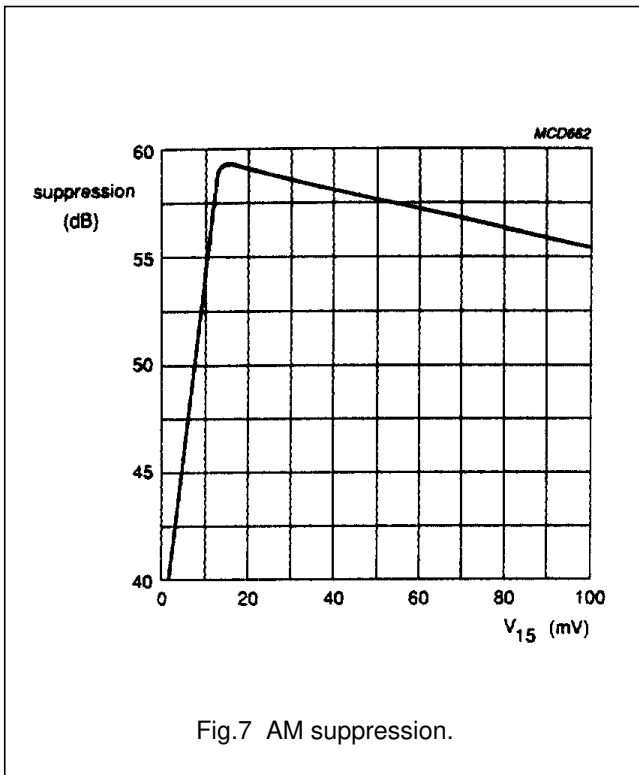

Fig.7 AM suppression.
13. The test set-up is illustrated by Fig.6. The AM rejection curve (typical) is illustrated by Fig.7.